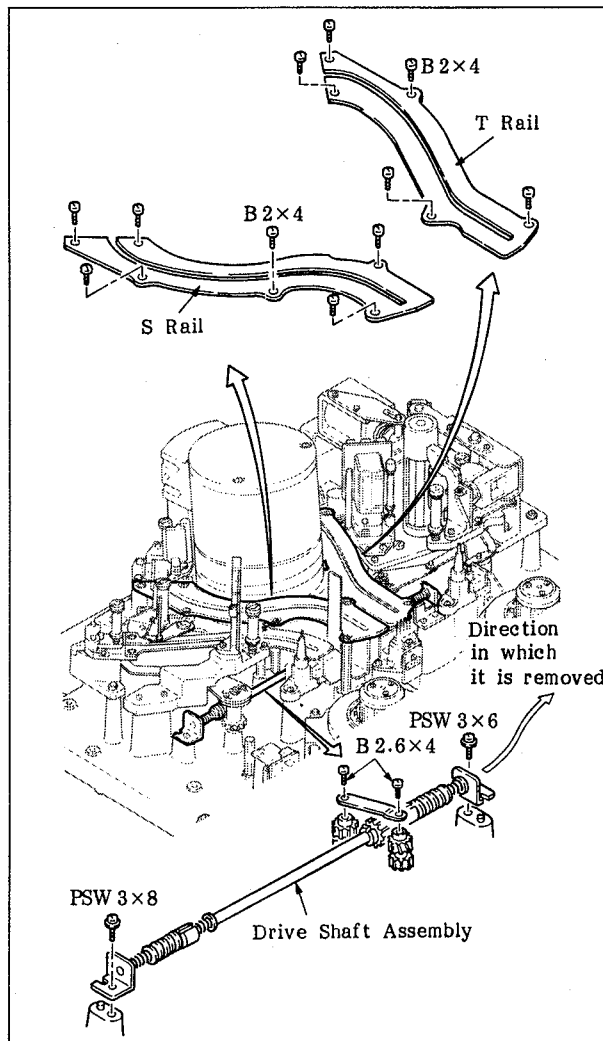

Fig. 6-68 Remove the Drive Shaft Assembly
1. Remove the S and T rails, and the drive shaft assembly by referring to Figure 6-68.
3. Attach the components that were removed by referring to Figures 6-68 and 6-69.